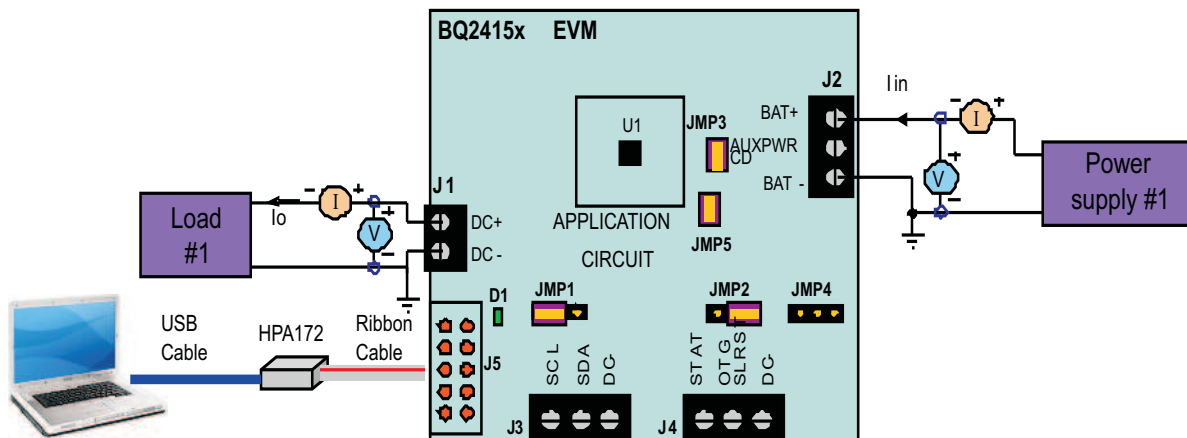

Figure 4. Test setup for HPA256
2. Set the Load #1 current to  $200mA \pm 20mA$  but disable the output. Connect the output of the Load #1 in series with a current meter (multimeter) to J1 (DC+, DC-). Make sure a voltage meter is connected across J1 (DC+, DC-). The setup is now like Figure 4 for HPA256.